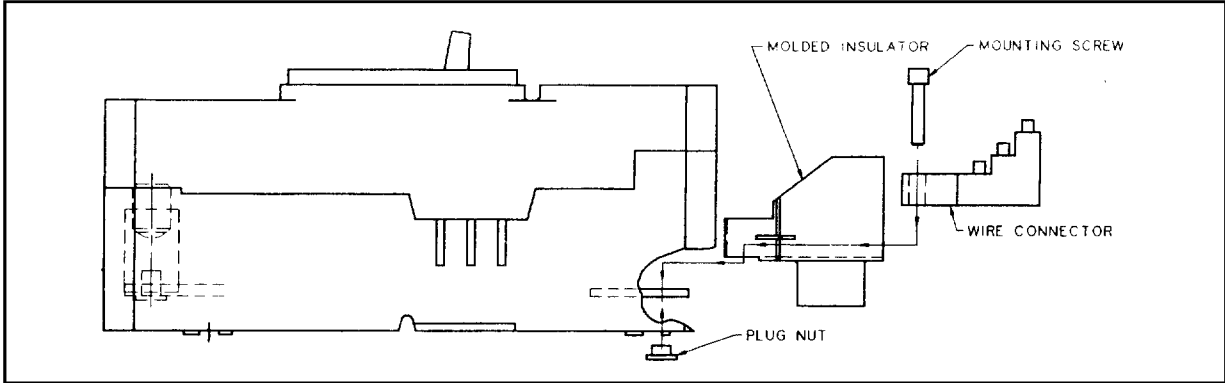

Figure 1. Typical J-Frame Circuit Breaker Installation
If circuit breaker is installed in equipment, it **MUST** be removed from equipment for installation of this kit. This kit is intended for use **ONLY** on the **LOAD END** of the circuit breaker. See Figure 1.
2. Press plug nuts into circuit breaker terminals as shown in Figure 1. The flats on the plug nut are to be aligned with the straight sides of the terminal hole.
3. Place kit wire connector into molded insulator as shown in Figure 1.
4. Place molded insulator and wire connector on top of breaker terminal as shown in Figure 1.
5. Install provided mounting screw as shown in Figure 1. Torque mounting screw to 50 Lb.-In.